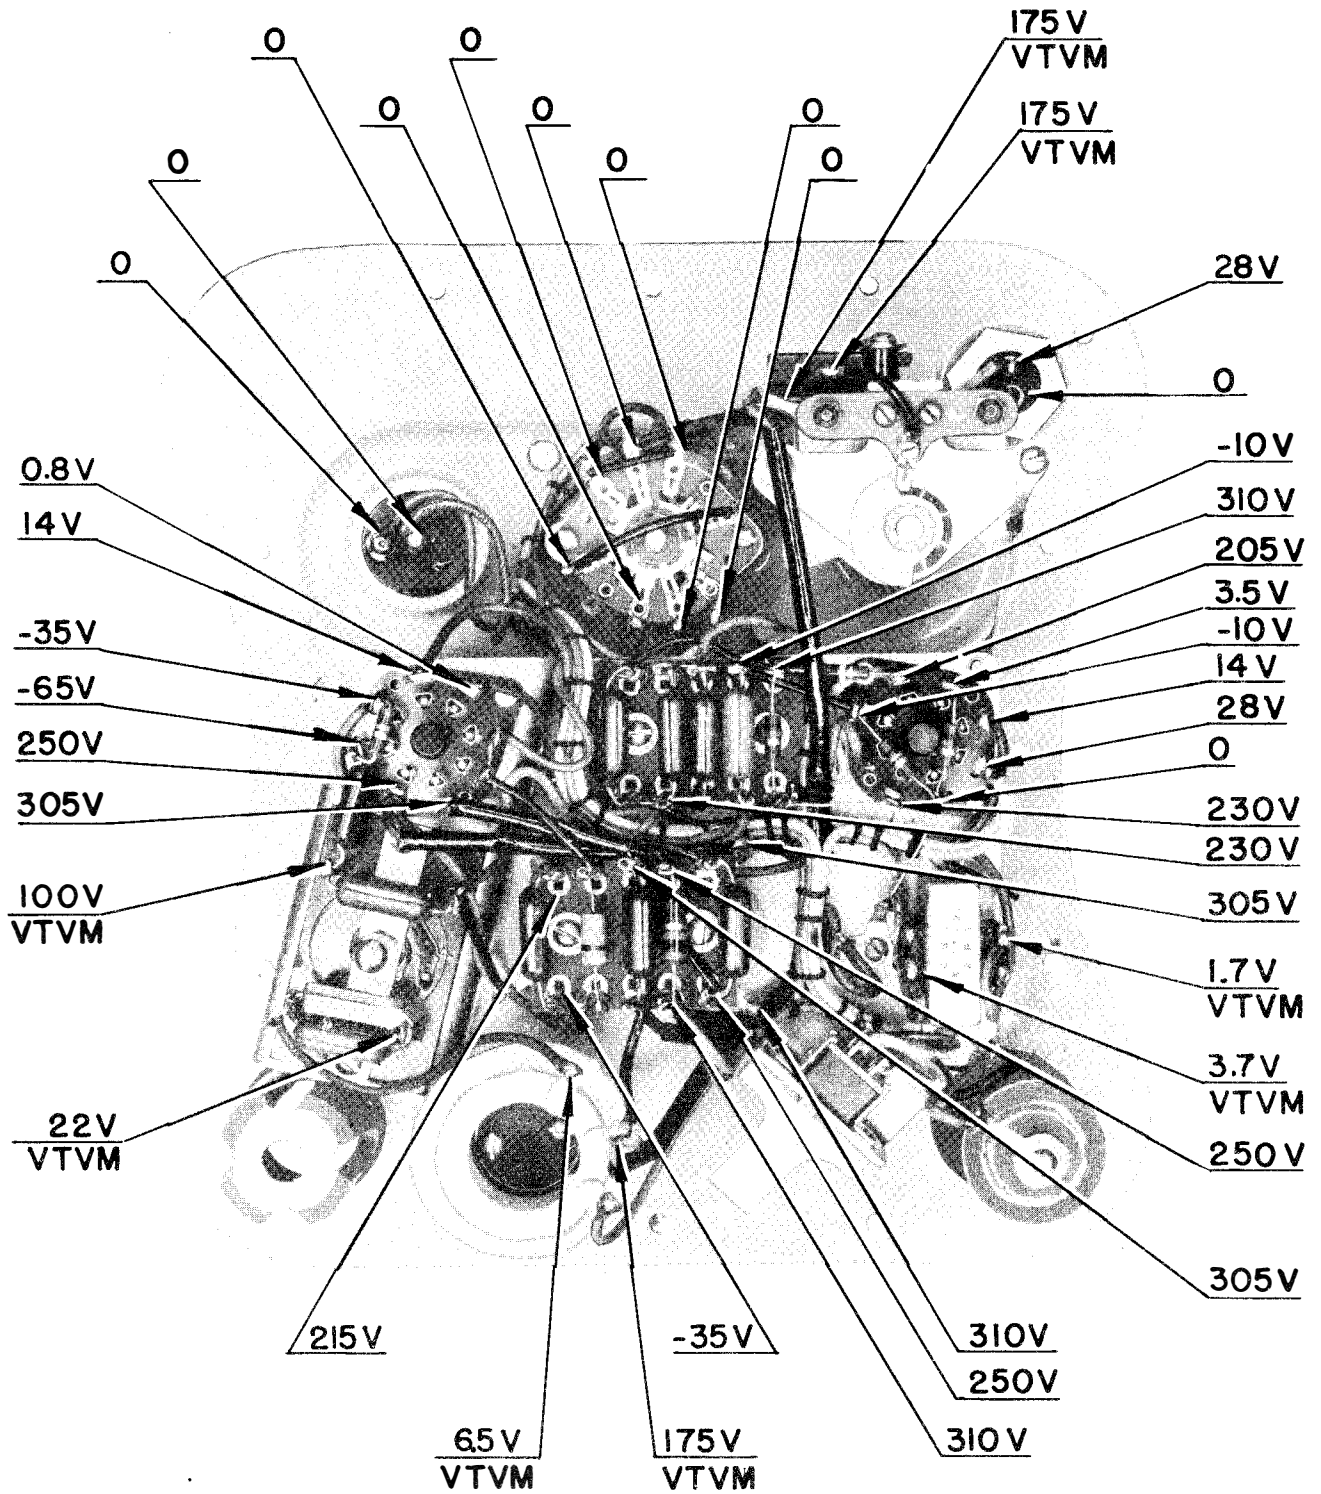

Figure 26—Radio Transmitter BC-778-C, BC-778-D or BC-778-E, Point Voltages of Cover
g. Tube socket voltage and others for all models, except Radio Transmitter BC-778-A, are shown in figure 26. Readings refer to chassis ground and are taken with a 20,000-ohms-per-volt meter except when VTVM (vacuum tube voltmeter) is indicated next to the reading. All readings are approximate. The position of the wafer switch is RADIO AUTO 1 (as shown in the figure). Be sure to take readings during the 20-second dash. The type of load is the standard dummy antenna as described in *a* above. A power supply which furnishes the required voltages may be used; if such a power supply is not available, use the crank on the unit and turn at the speed required to light the indicator lamp.